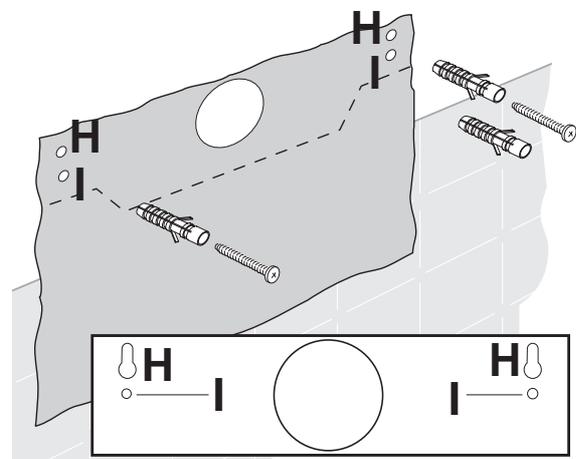

Fig. 5
- Fix the drilling template to the wall (Fig. 5).